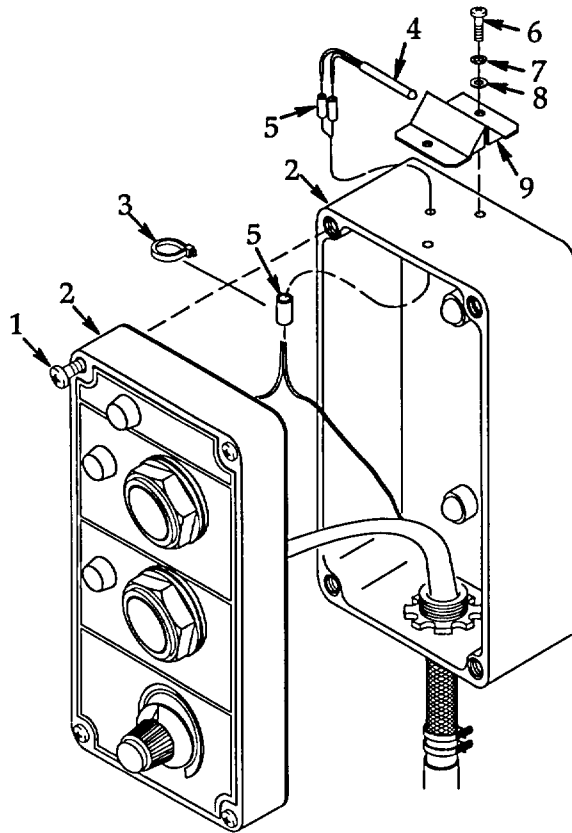

Figure 4-36. Temperature Sensor (RT1).
a. **Removal.** See figure 4-36.
b. **Installation.** See figure 4-36.
- (1) Carefully push temperature sensor (4) leads through hole in remote box (2).